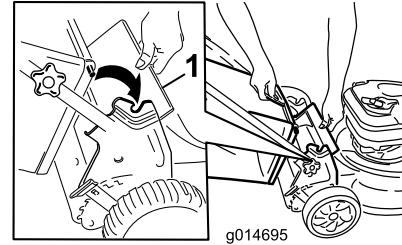

Figure 16
1. Lift up the rear deflector (Figure 16).
2. Insert the grass bag handle onto the notches on the handle brackets (Figure 16).